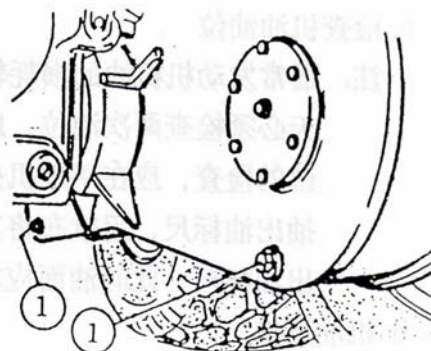

Fig. 32
1. Unscrew the screw plug (Fig. 32/1), (Each tandem box has two screw plugs), drain oil into proper container, screw on the screw plug after drainage.
2. Clean the crew plug (Fig. 32/1), replace sealing ring to refit and retighten screw plug.